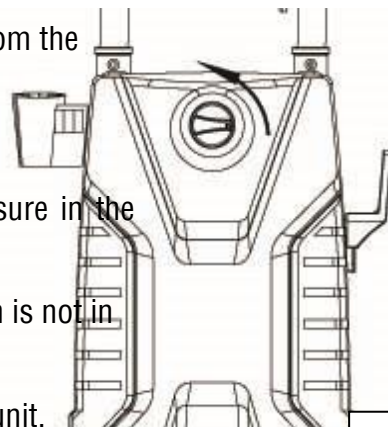

Fig.13
1. Turn off the ON / OFF switch (Fig. 13) and unplug the power plug from the outlet.